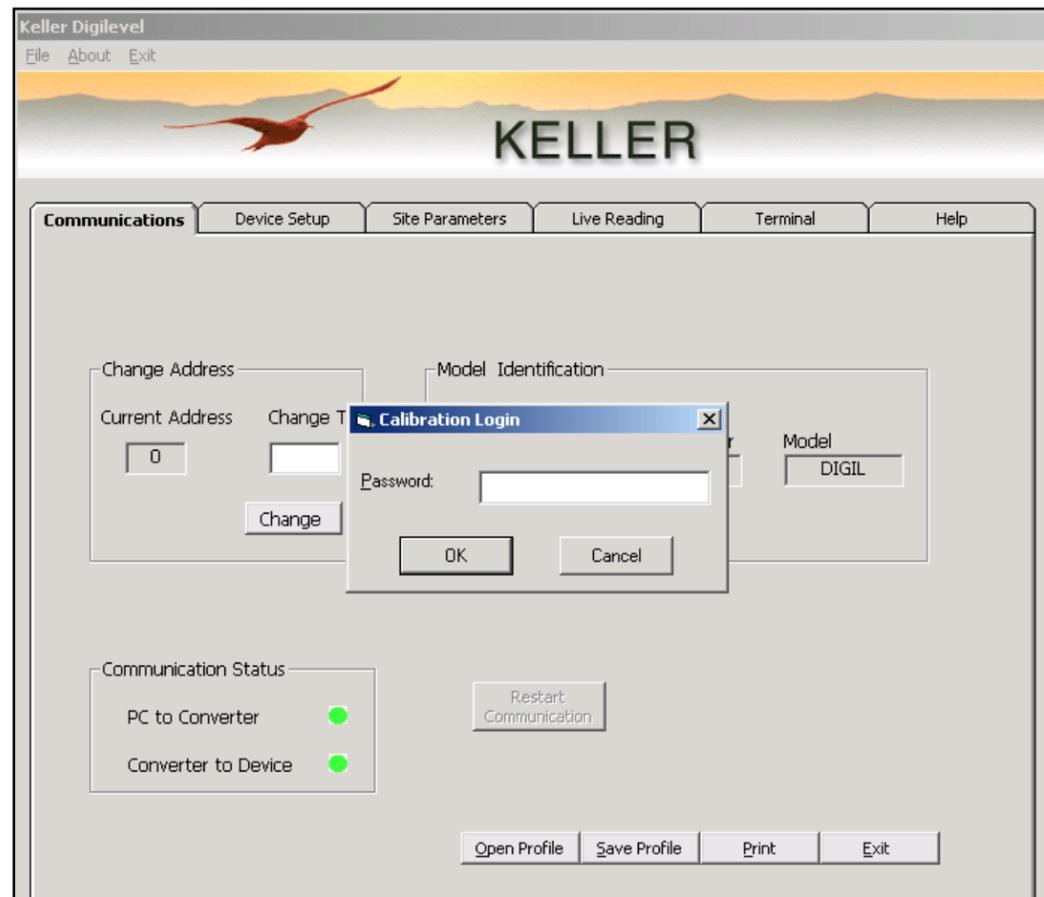

Figure 1 - Login
1. To enter and enable the Calibration, the Digilevel program must show the Communications tab. A Digilevel probe should be attached at this point. User then enters <Ctrl><F3> to display the login/password window. See Figure 1 below.